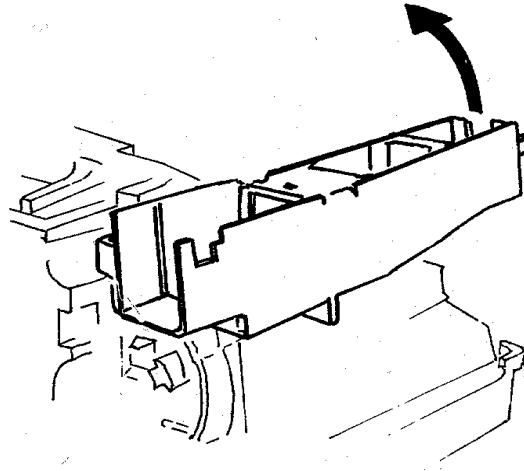

Fig. 17 Removing Viewfinder Housing
18. Remove Viewfinder Housing by tilting rear end upward (Fig. 17) and rotating it forward (note position of the tab at its left front).